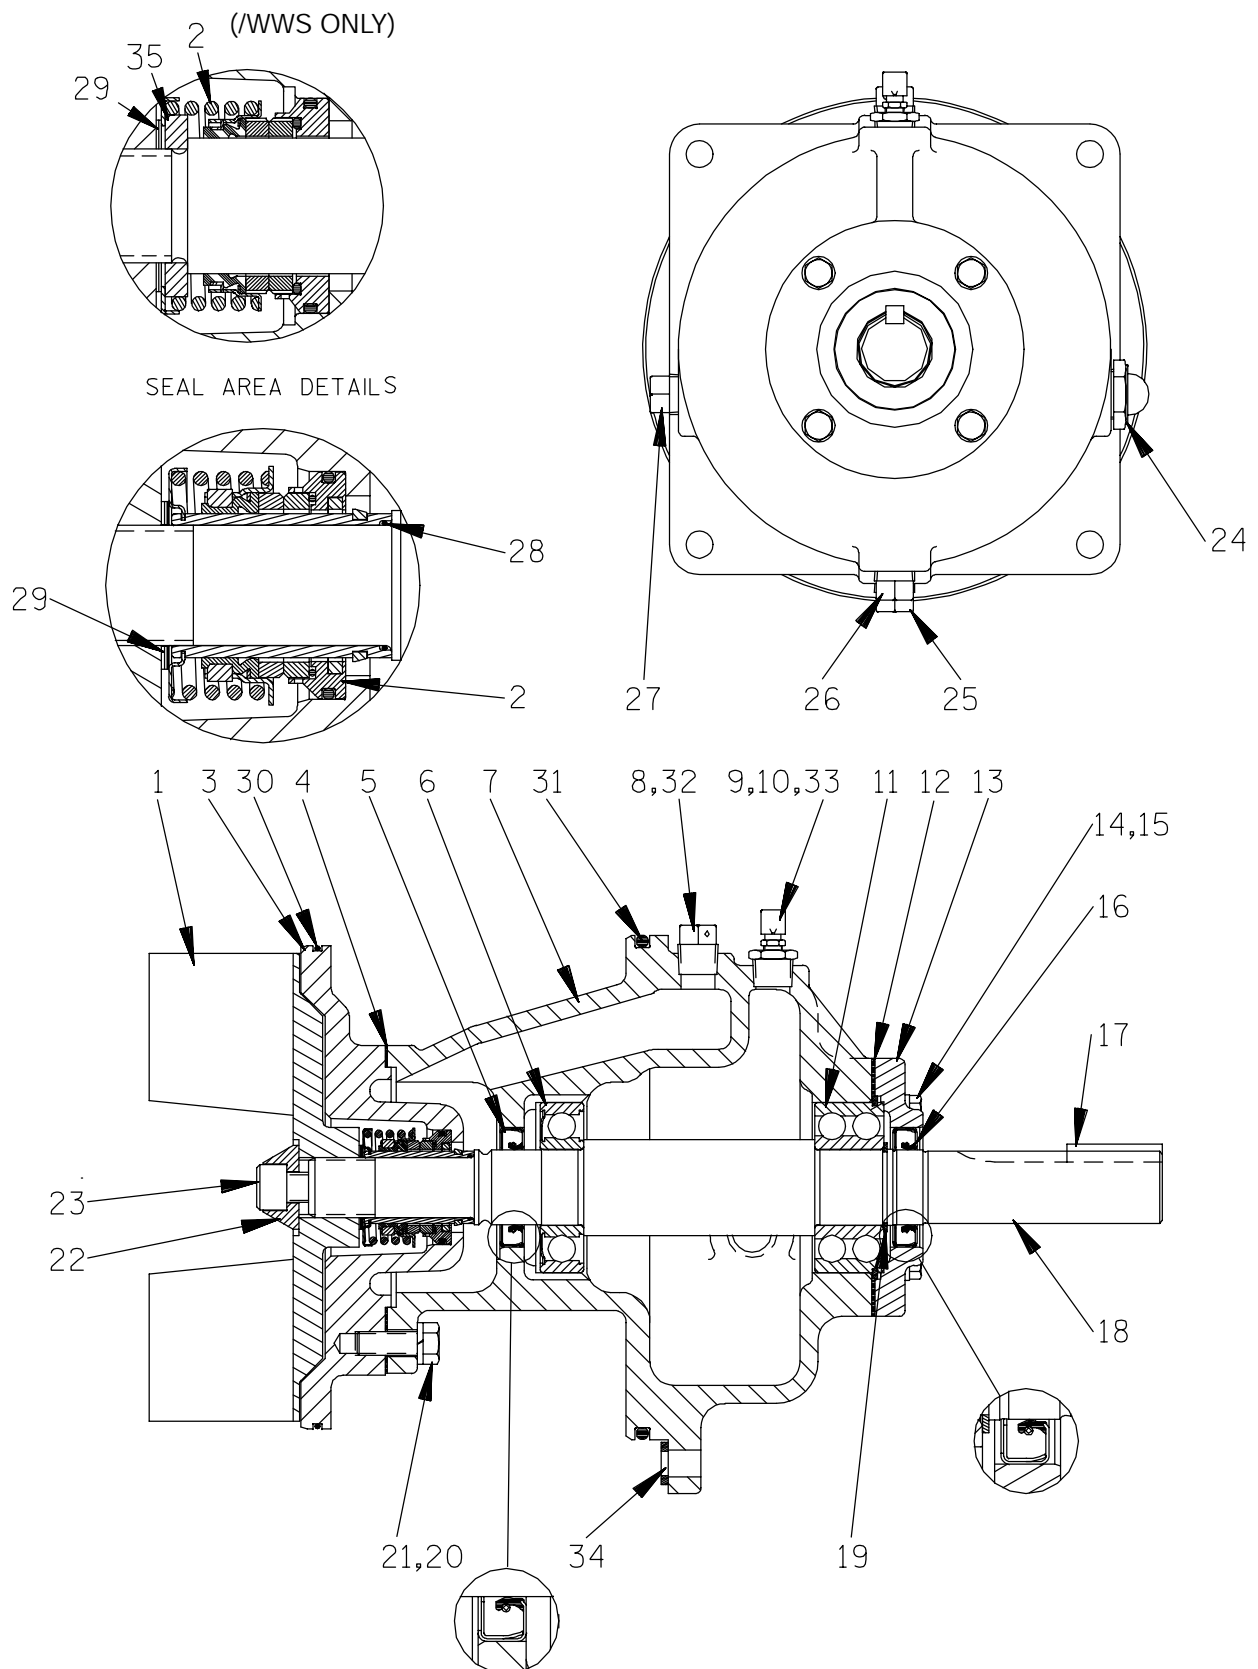

Figure 2. Repair Rotating Assembly
(Figure 2)
*To install the tool, remove the air vent (9, Figure 2) from the bearing housing, and screw the longest length of pipe into the vent hole until fully engaged. Install the tee, and screw the handles into the tee. Use caution when lifting the rotating assembly to avoid injury to personnel or damage to the assembly.*
### (Figure 2)